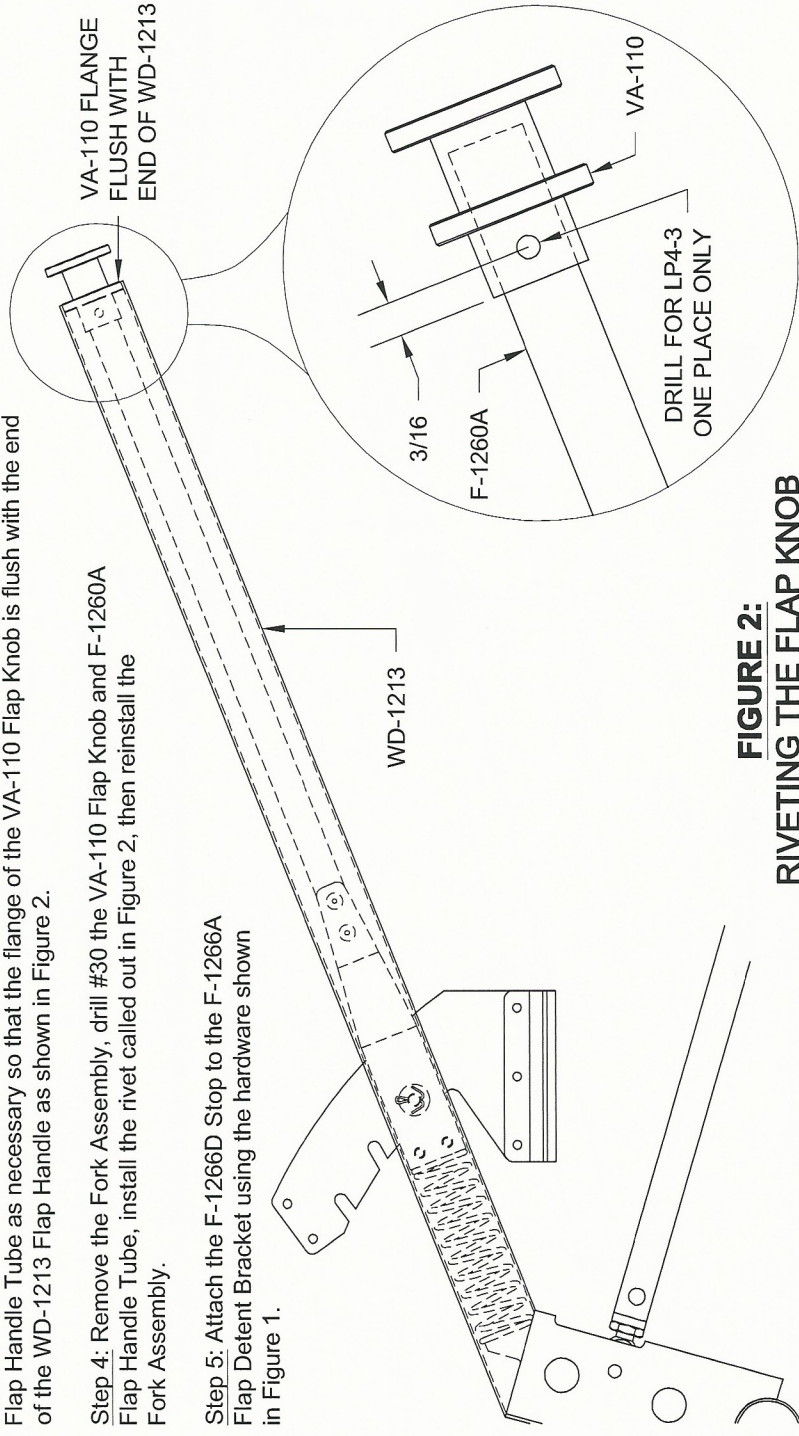

FIGURE 2: RIVETING THE FLAP KNOB
Step 3: With the Fork Assembly engaged in the F-1266A Flap Detent Bracket, trim the F-1260A Flap Handle Tube as necessary so that the flange of the VA-110 Flap Knob is flush with the end of the WD-1213 Flap Handle as shown in Figure 2.
Step 4: Remove the Fork Assembly, drill #30 the VA-110 Flap Knob and F-1260A Flap Handle Tube, install the rivet called out in Figure 2, then reinstall the Fork Assembly.